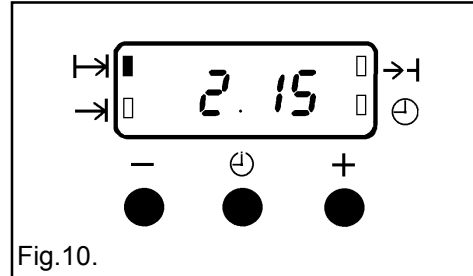

Fig.10.
- iii) To set the length of cooking time, press the Selector Control button until the 'Cook Time' () indicator is illuminated. Press the increase control (+) until the required length of cooking time is displayed, e.g. 2 hrs 15 mins as Fig. 10. Depress the decrease control (-) if necessary.